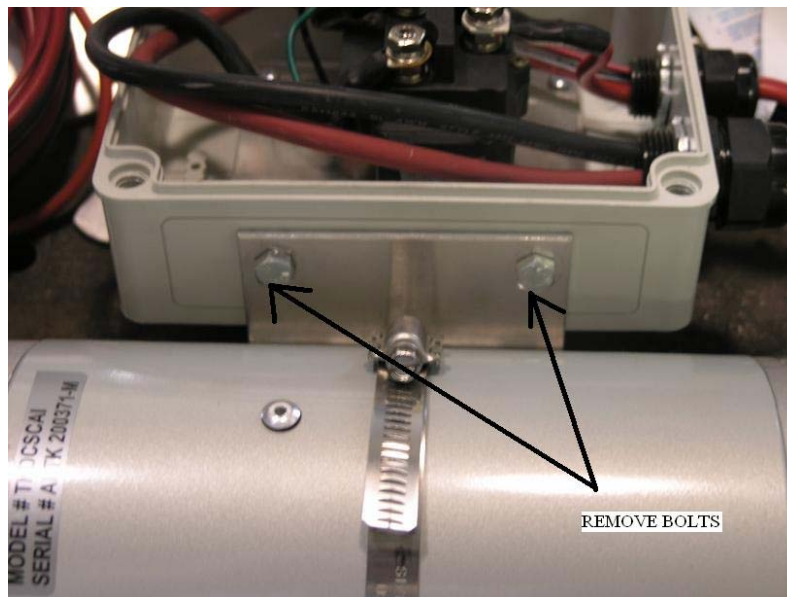

Fig.1
1. Open the Commander control box, and locate the bolts shown in fig.1. Remove the 2 bolts.